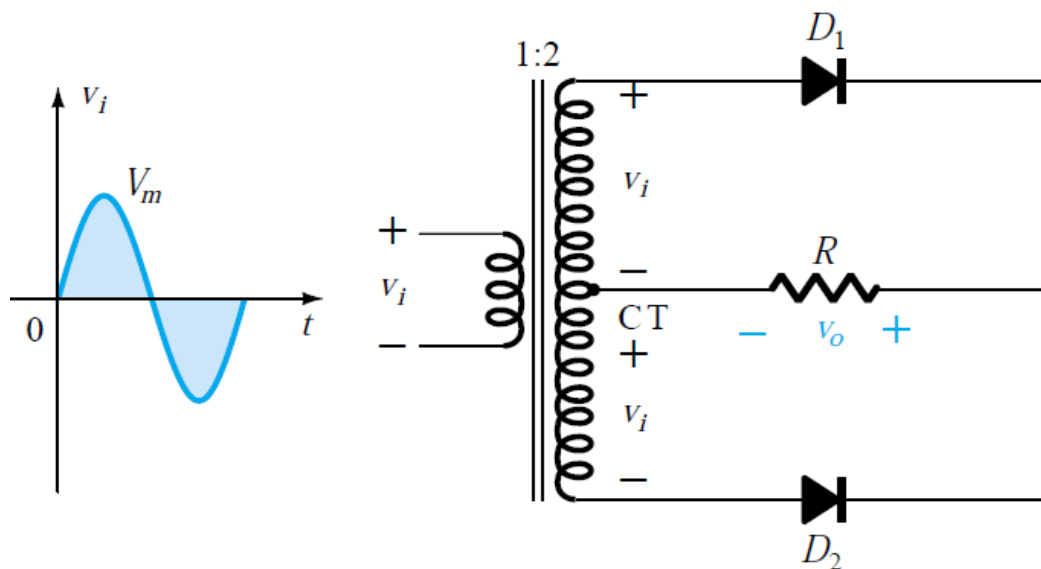

Figure 2.17: Centre-tapped transformer full-wave rectifier
A second popular full-wave rectifier appears in Figure 2.17 with only two diodes but requiring a centre-tapped (CT) transformer to establish the input signal across each section of the secondary of the transformer.